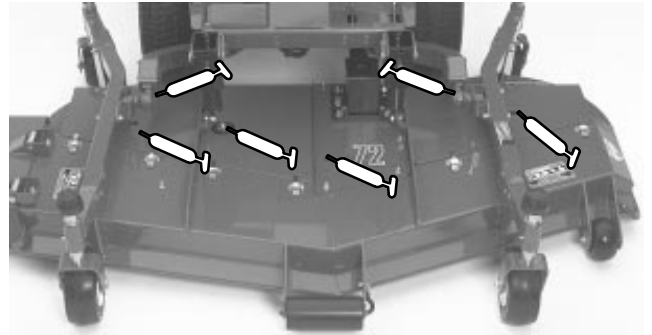
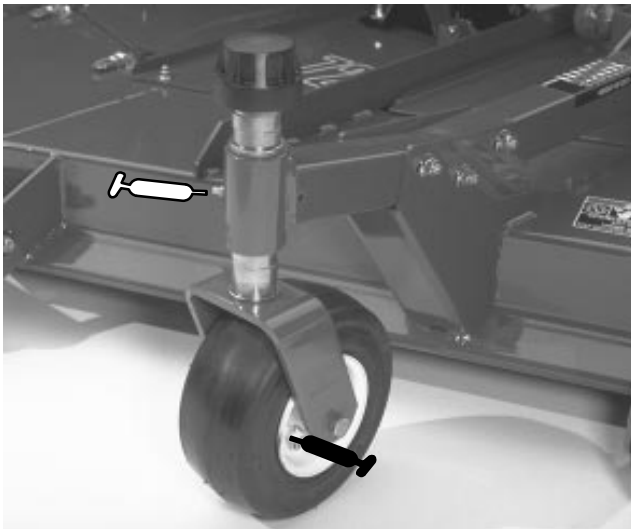

Figure 21
Figure 19
GREASE BEARINGS, BUSHINGS AND GEAR BOX (Fig. 19–22)
1. The cutting unit has bearings and bushings that must be lubricated, and these lubrication points are: front castor spindle bushings (Fig. 19); rear castor spindle shaft (Remove shaft from castor arm and coat hex shaft with designated grease every 50 hours (Fig. 20); castor wheel bearings (Fig. 19 & 20); blade spindle bearings (Fig. 21) and right and left push arm ball joints (Fig. 21).